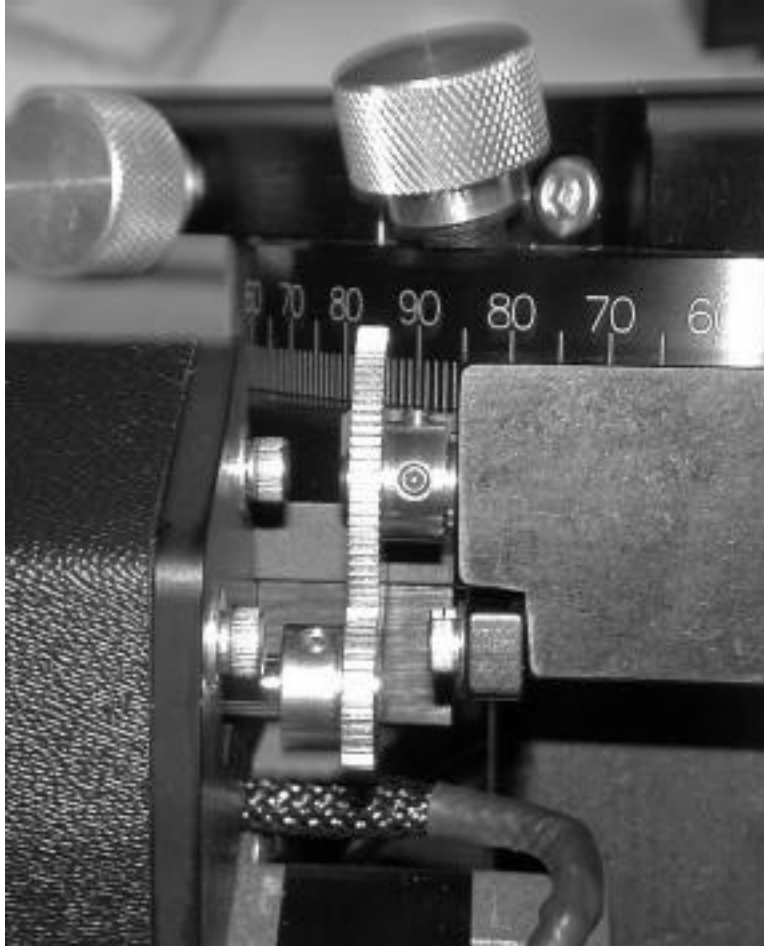

Figure 5
Step 8: Align the Dec Drive Unit's small spur gear with the large spur gear on the CI700 worm's shaft. The goal is to accomplish alignment as shown in figure 5. Note: figure 5 shows the gears with the gear cover removed for illustration purposes only.